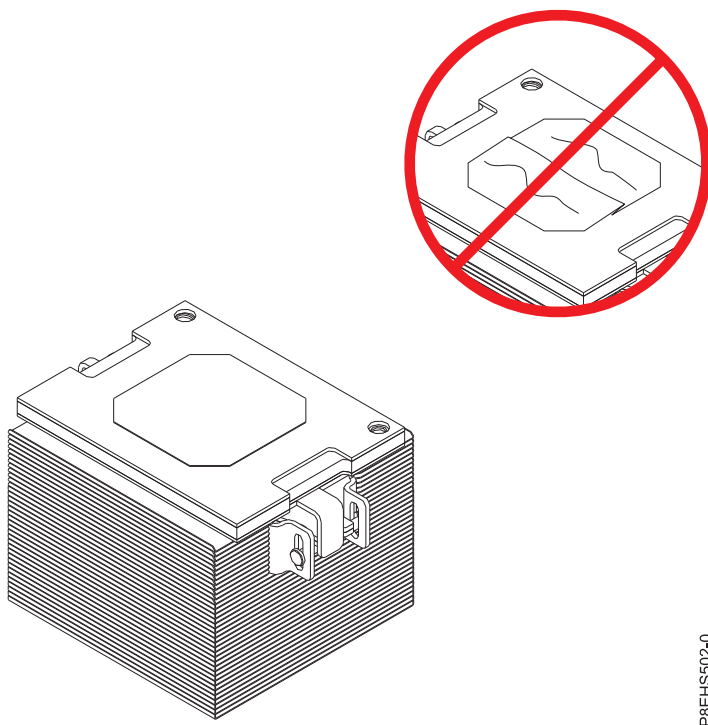
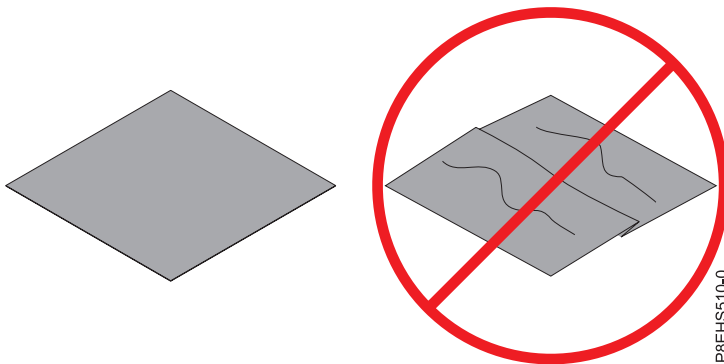

Figure 102. Inspecting the silver-colored thermal interface material
Figure 103. Inspecting the gray-colored thermal interface material
6. Inspect the thermal interface material (TIM) for visible signs of damage, as shown in Figure 102 or Figure 103. If you see folds, tears, bends, or if you have doubts about the TIM, replace it.